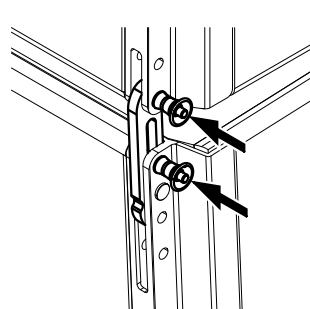

Fig. 3: SUB to SUB, 2.5° splay, free
- c. SUB to SUB with 2.5° splay (free \Rightarrow Fig. 3) between the cabinets.